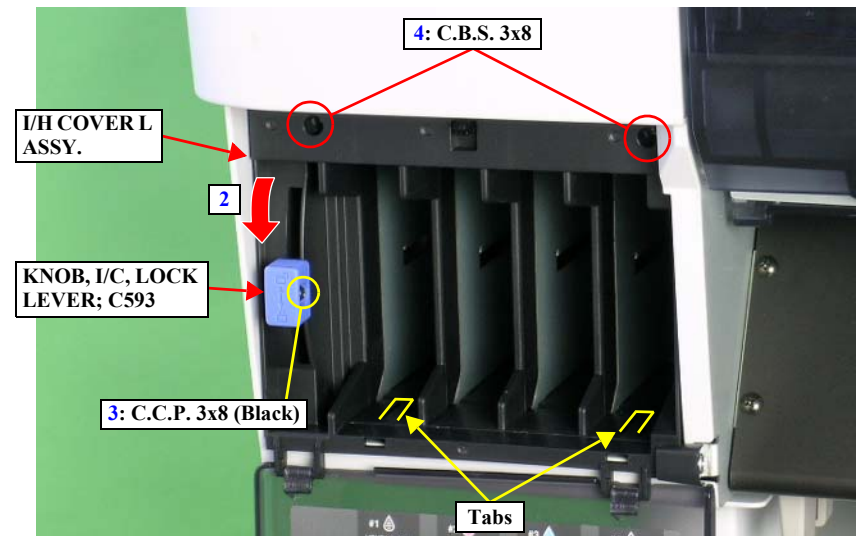

Figure 4-21. Removing the I/H COVER L ASSY.
2. Lower the KNOB, I/C, LOCK LEVER; C593 to the position shown in the figure. *See Figure 4-21.*
3. Remove the screw that secures the KNOB, I/C, LOCK LEVER; C593 and remove it. *See Figure 4-21.*
4. Remove the two screws that secure the I/H COVER L ASSY. *See Figure 4-21.*
5. Release the two tabs that secure the I/H COVER L ASSY. and remove it. *See Figure 4-21.*